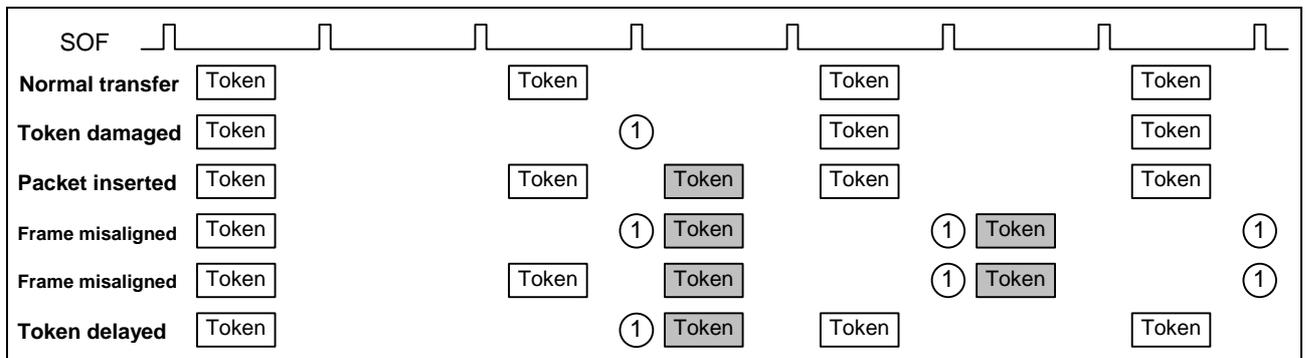

Figure 3.28 Example of interval error being generated when “IITV=1”
Figure 3.28 shows an example of the controller generating an interval error. There are five types of interval errors, as noted below. The interval error is generated at the timing indicated by ① in the illustration, and the buffer flush function is activated.